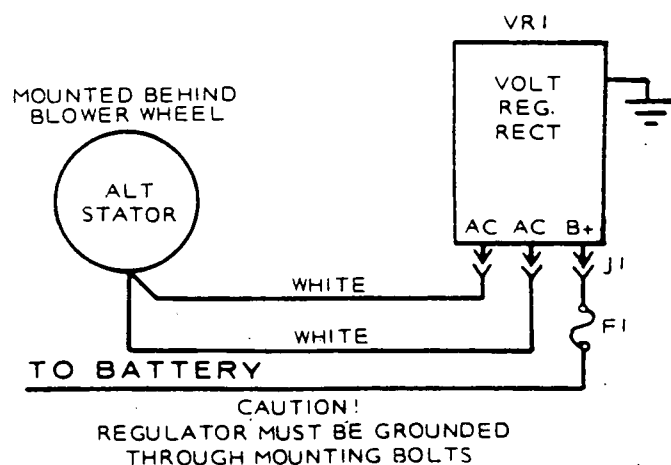

FIGURE 31. 15 AMP PHELON SYSTEM
1. Check the B+ to ground voltage using a DC voltmeter. See Figure 31 for wiring diagram.